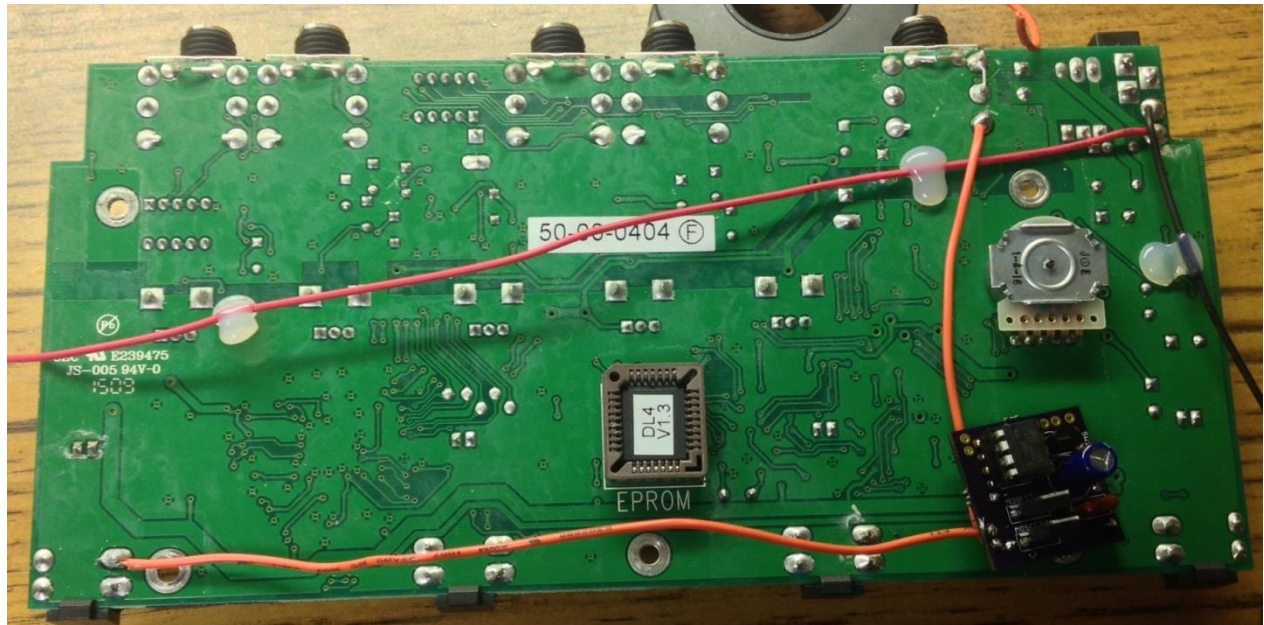

Figure 6.4
4. Connect a wire from the top right corner pad of switch 4 to the pad on the SS PCB labeled "TAPO" (it's right next to the "TIP" pad). (Figure 6.4)